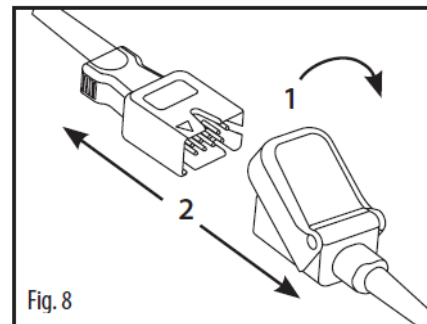

Fig. 29 Disconnecting the LNCS Sensor from the LNC Patient Cable
See Fig. 8 in Fig. 29: Lift the protective cover to gain access to the sensor connector (1). Pull firmly on the sensor connector to remove from the patient cable (2).